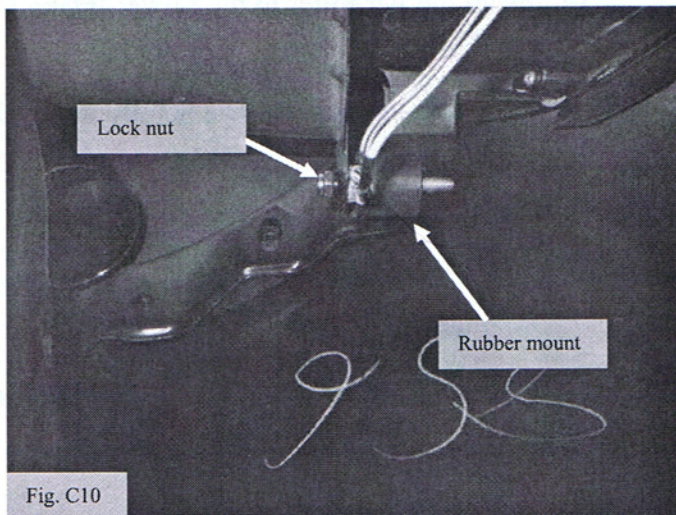

Fig. C10
- ⚠ i. Make sure the ground wire is installed between the rubber mount and the vehicle, with the star washer between the ground wire and the rubber mount. The correct order is vehicle, ground wire, star washer and rubber mount. (Fig. C10)
- ii. Install the 6mm lock nut as shown. (Fig. C10)